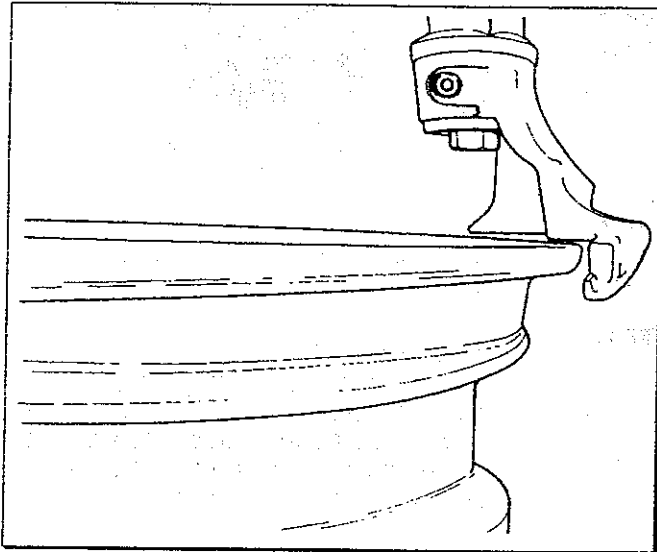

Fig.17
E. Position the mount/demount head in contact with rim edge and lock it into place: the tool automatically moves away from the rim edge vertically. Turn the adjustment knob until the mount/demount head clears from the rim flange about 1/16" (2mm): this is necessary to avoid any rim damage (Fig.17).